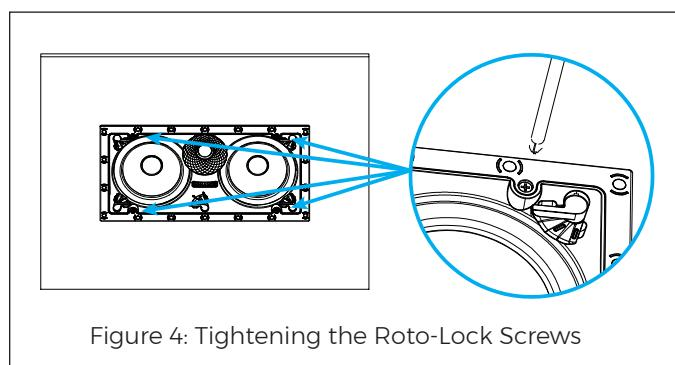

Figure 4: Tightening the Roto-Lock Screws
6. Insert the speaker into the mounting hole (see Figure 4) and tighten the five screws on the front of the speaker baffle (see Figure 5).